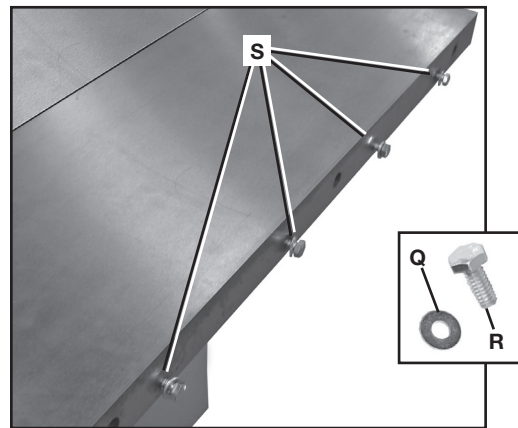
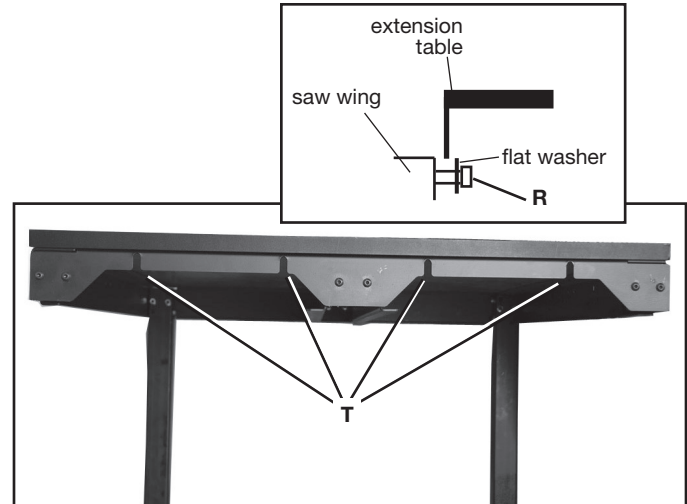
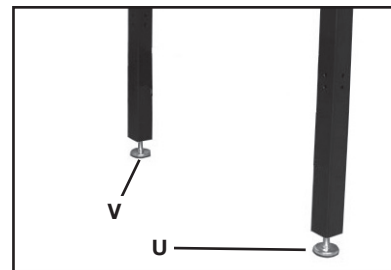

FIG. 8
FIG. 9
FIG. 10
1. Place 5/16" flat washers (Q) Fig. 8 on 5/16-18 hex head screws (R) and thread a few turns into the holes (S) in the right extension wing.
2. Holding the extension table, line up four slots (T) Fig. 9 in the extension table with these four screws (R) Fig. 8.
**NOTE:** Make sure the flat washers are against the heads of screws (R) Fig. 9 (inset).
3. Using the leveling feet (U and V) Fig. 10, make sure the extension table is level and in the same plane with the Unisaw right extension wing and tighten the four screws (R) Fig. 8 from underneath the extension table.